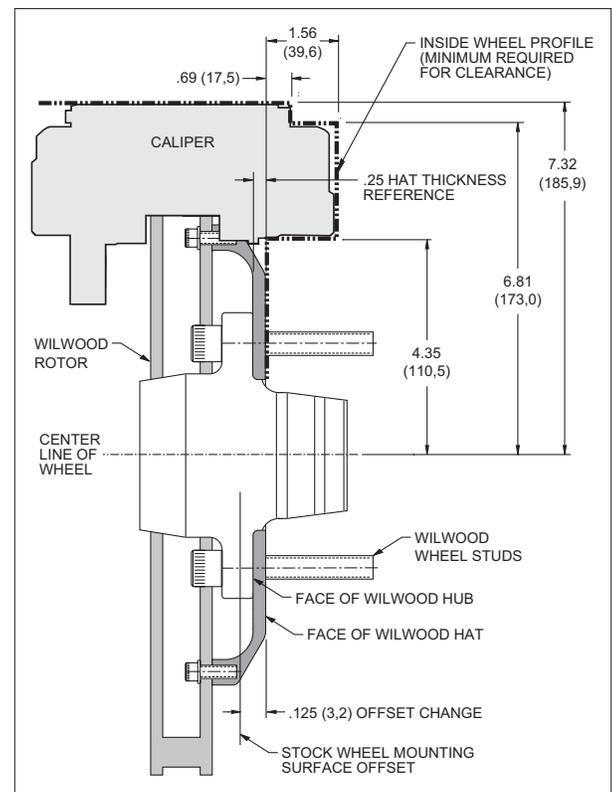

Figure 3. Wheel Clearance Diagram
**NOTE:** Installation of this kit requires spindle modifications that are best accomplished by a qualified machine shop. Please read installation instructions completely before beginning work. Review the wheel clearance diagram (Figure 3) to verify that your wheels provide adequate clearance for this brake kit. This kit will result in the wheels being moved out approximately 1/8" beyond the stock location.
- Verify your wheel clearance using Figure 3.